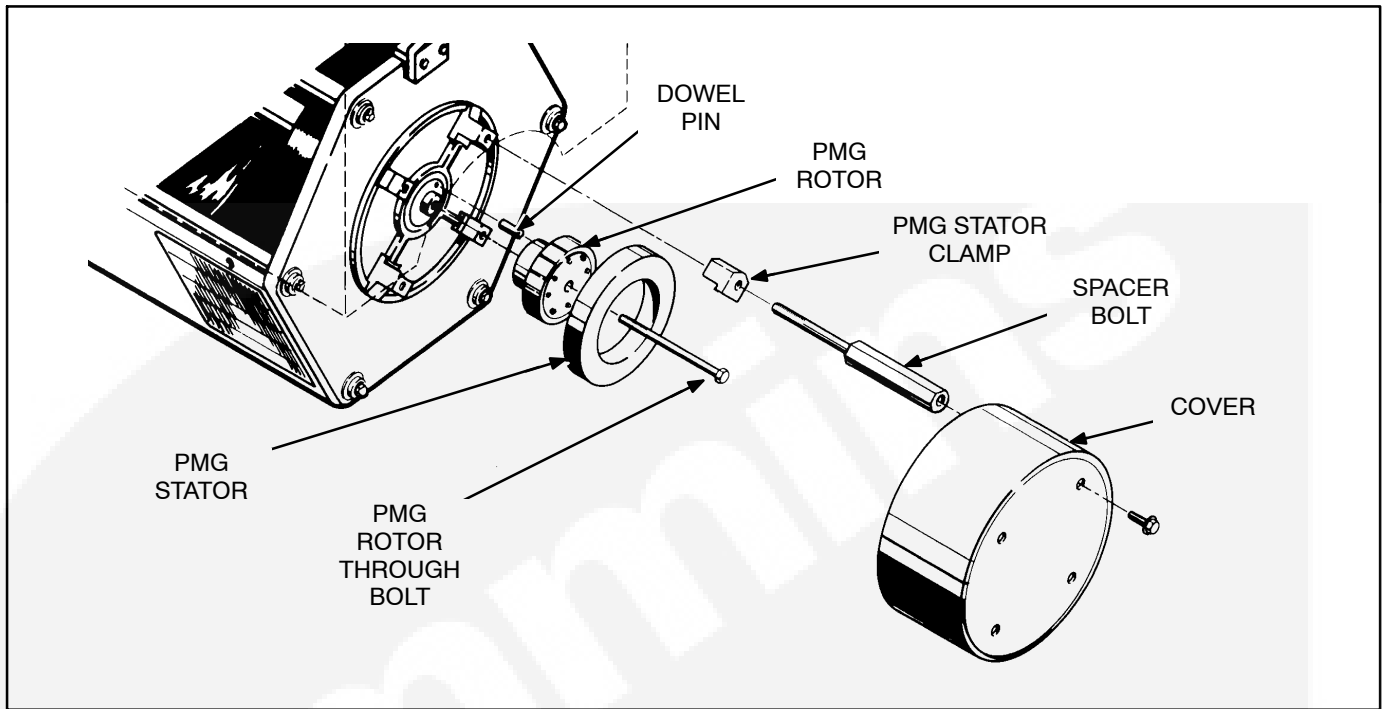

FIGURE 6-8. PMG ASSEMBLY
5. Remove the PMG cover and disconnect the leads at the connector (Figure 6-8).